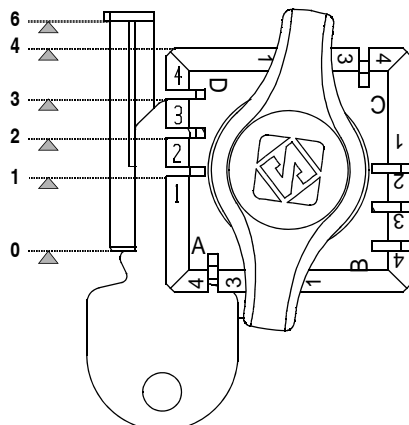

Fig. 12 - key stops
- To fit keys with tip stops on the optic reader clamp, fit the bar provided into the special grooves (fig. 12).